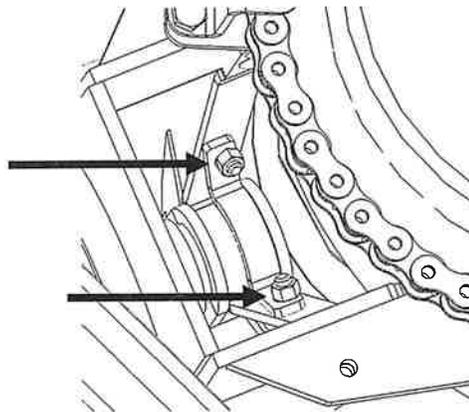

Figure 2
2. Using a 9/16" wrench and a 9/16" socket with 10" socket extension remove the bolts and nuts holding the top strap over the hanger bearing as shown in Figure 2 below. Remove the top strap and top half of the hanger bearing.